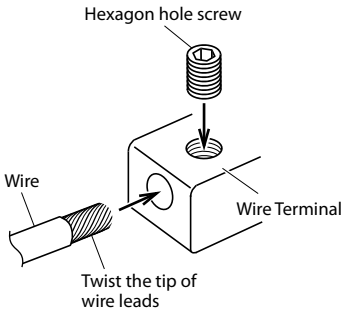

Fig. 6
- Tighten the hexagon hole screw with the hexagon wrench (included) to secure the lead. (Fig. 6)